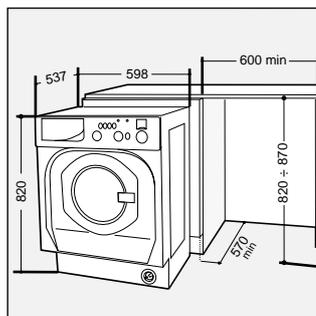

Fig. 14
- Push the machine into the opening, aligning it with the cabinets (fig. 14).